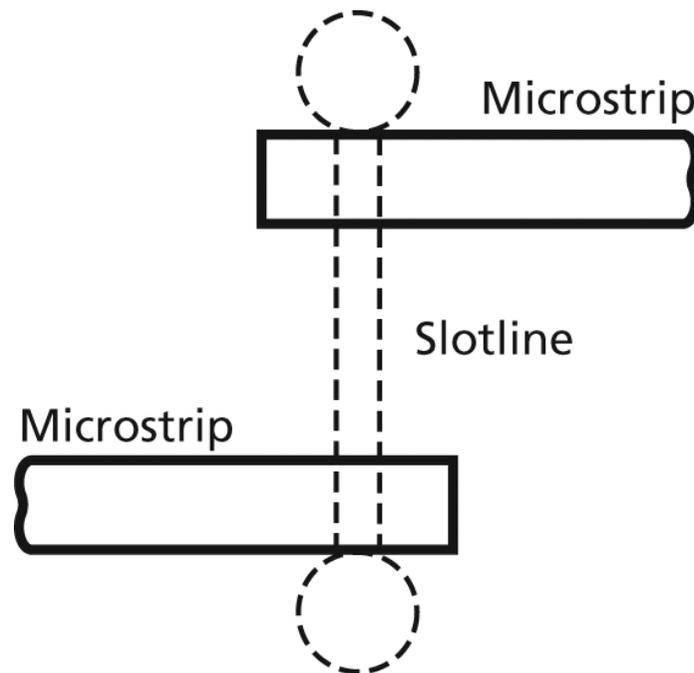

Fig 28. Two microstrip-slotline transitions connected back to back for 180° phase change [17]
- ◆ Fig. 28 shows a broadband (decade bandwidth) pulse inverter. Assuming the upper microstrip to be the input, the signal leaving the circuit on the lower microstrip is inverted since this microstrip ends on the opposite side of the slotline compared to the input. Printed slotlines are also used for broadband pickups in the GHz range, e.g. for stochastic cooling [15].